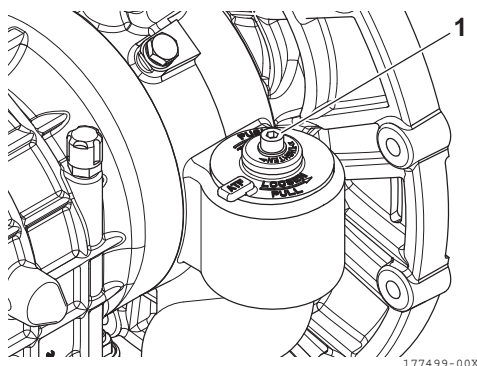

Figure 23
14. Tighten the cap screw (1, **Figure 23**) to the tightening torque of 5 N·m to 8 N·m (3.6 lbf to 5.9 lbf).